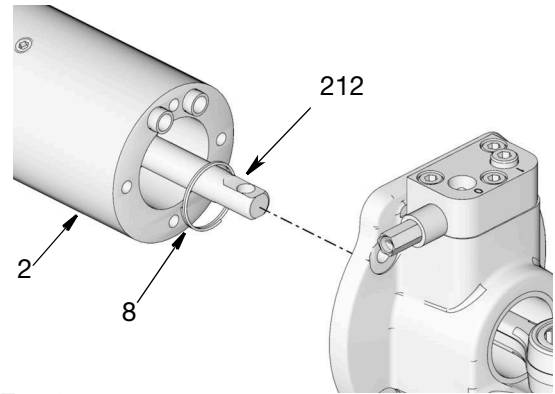

FIG. 27
12. Separate the displacement rod (212) from the connecting rod (102). Put the section (102) in a safe place, it is needed for reassembly. (FIG. 27).